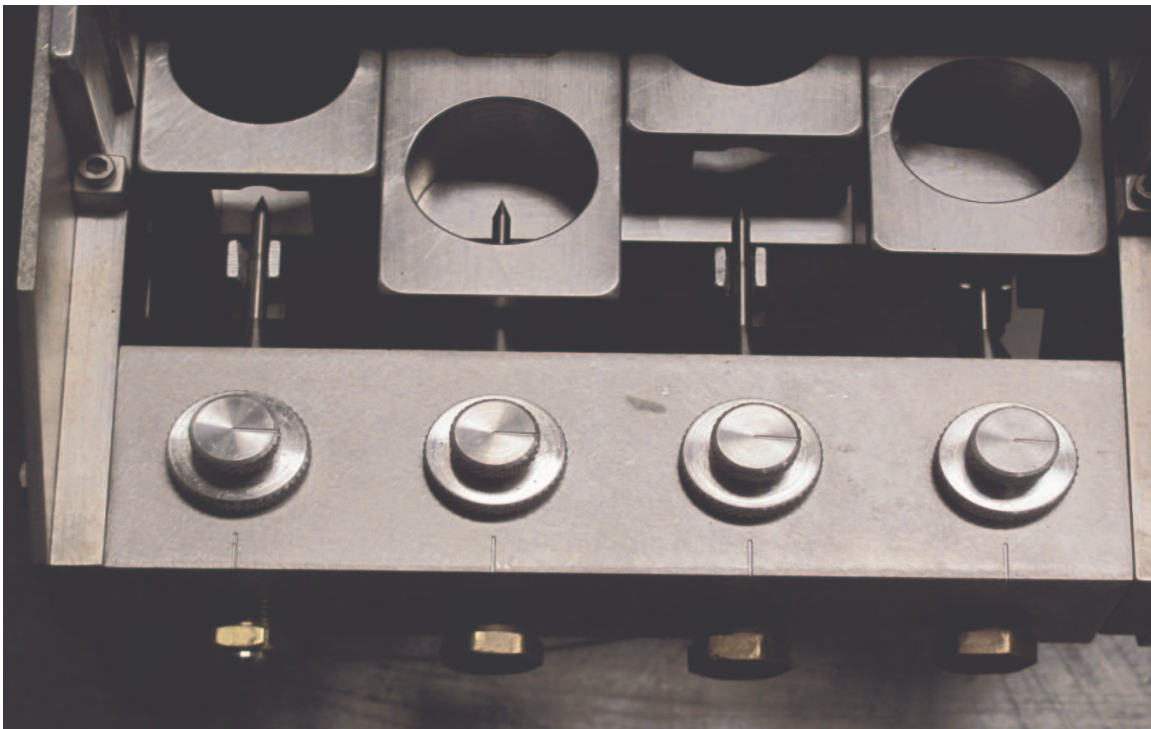

Figure 3
Connect the PSD to a power source and turn on the glycol pump (NOTE: The motor must be in the on position for the glycol pump to work.) Open the bleeder screw (about one turn) located in the brass plug on the side of the manifold using a Phillips screw driver. When glycol starts to escape from the bleeder screw in a steady stream the manifold is primed and the screw should be retightened. (Note: See figure 3 – bleeder screw can be seen protruding from the brass fitting on the left.)
- Check the needle valve adjustment on the manifold (see *Figure 3*) :